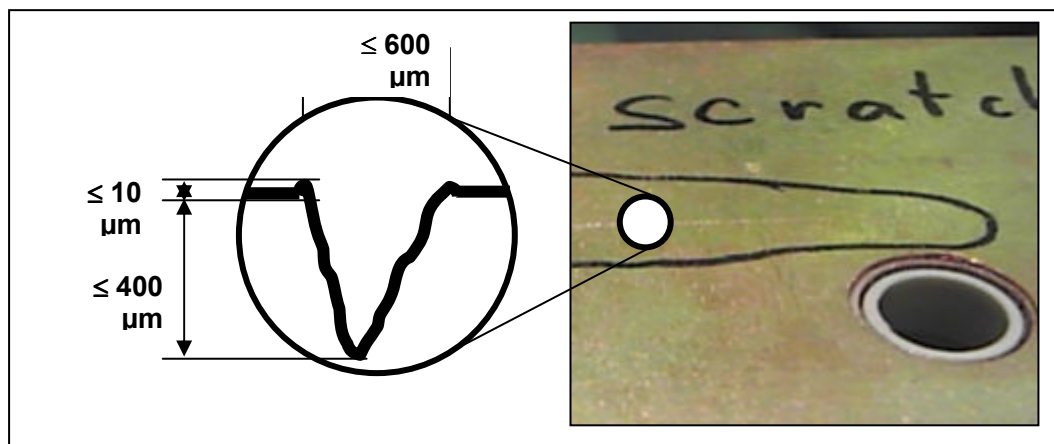

Figure 2 - Scratches on the SEMIPONT bottom surface that don't affect thermal behaviour
- The figure 2 defines surface characteristics, which do not affect the thermal behaviour.